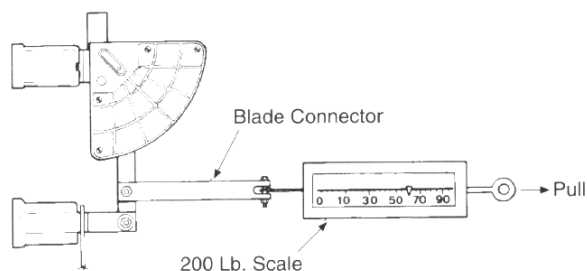

Figure 3: Checking For Proper Adjustment
2. Attach a spring scale to the blade connector (figure 3).
3. Keeping the scale straight and level, pull on the scale with a smooth, steady motion as shown in figure 3. A properly-adjusted arc chute will register 50 to 70 lb. on the scale when the blade disengages from the arc chute.